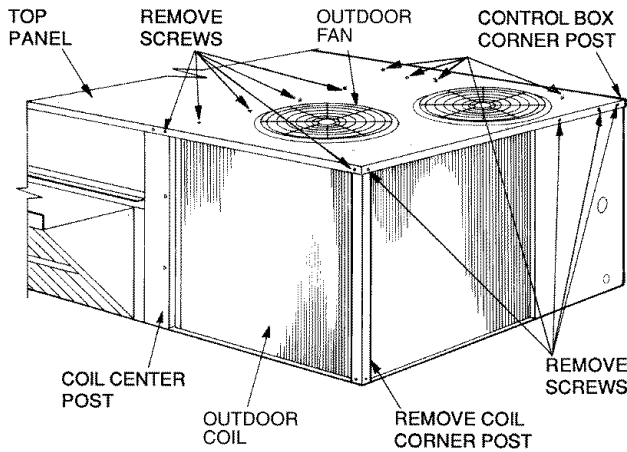
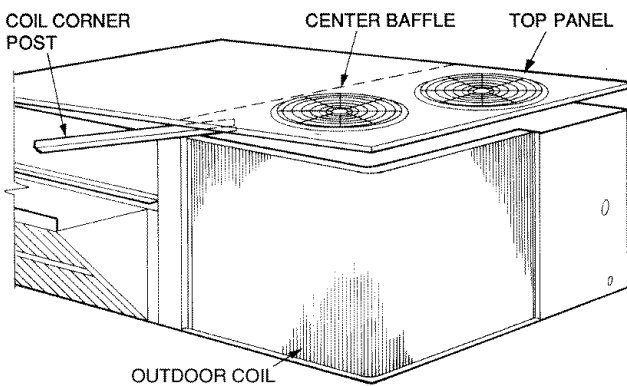

Fig. 43 — Cleaning Condenser Coil
Fig. 44 — Propping Up Top Panel
3. Remove the outdoor coil corner post. See Fig. 43. To hold the top panel open, place the coil corner post between the top panel and center post. See Fig. 44.